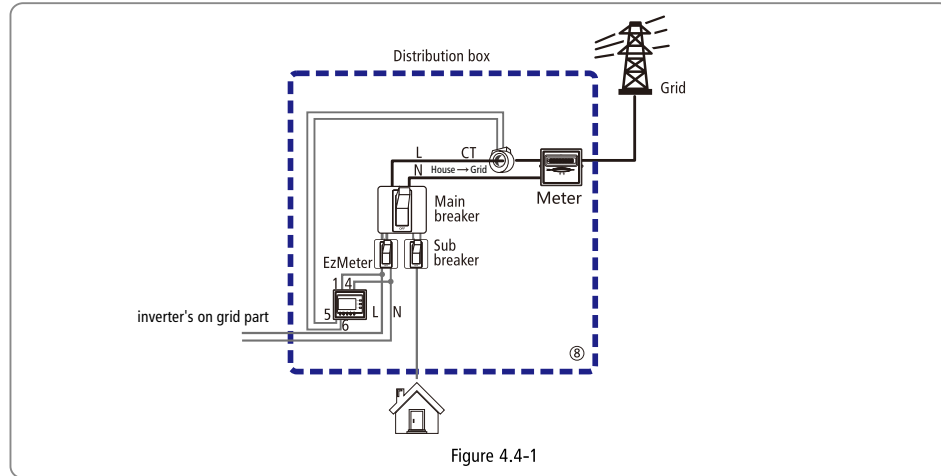

Figure 4.4-1
EzMeter can detect the grid voltage and the magnitude and direction of current, to control the working condition of hybrid inverter via RS-485 communication. For the connection method of EzMeter & CT refer to Figure 4.4-1.
- (1) Connect the CT to the main 'L' line as the Figure 4.4-1, make sure that the CT direction is 'House → Grid'.
- (2) Connect the EzMeter to the random 'L' and 'N' line, as the figure. To power up the EzMeter and detect the grid voltage, make sure that '1' connect to 'L', '4' connect to 'N'.
For the connection method of Type 1 EzMeter refer to Figure 4.4-1.